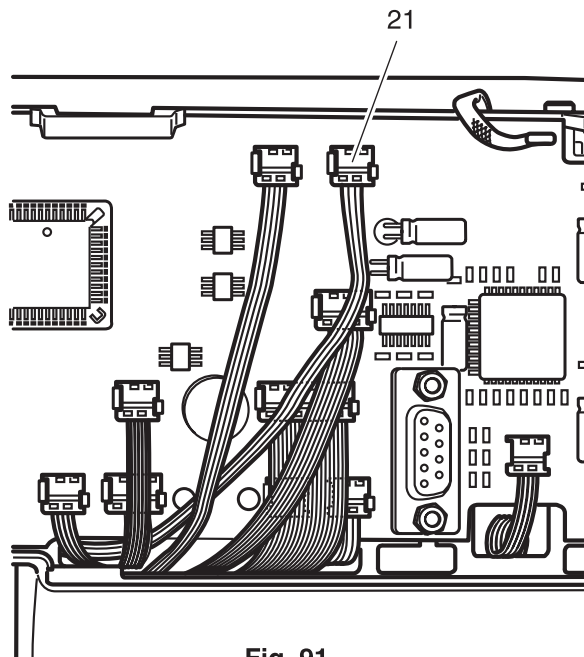

Fig. 91
- Pull the plug 21 from the circuit board (fig. 91).
- Fit the plug sockets 21 on the circuit board (fig. 91).